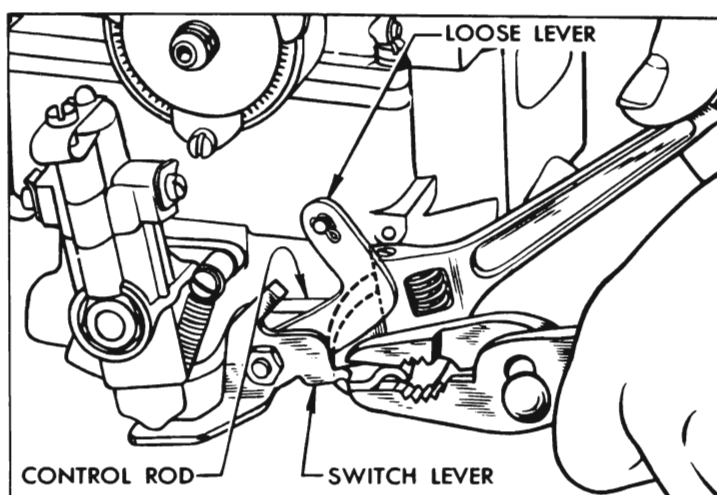

Figure 3-97—Adjustment of Secondary Throttle Linkage
3. Hold the switch lever by applying a suitable wrench to the flat surface below the loose lever, then bend the curved end of switch lever up or down with pliers as required to obtain the results specified in step 1. See figure 3-97.